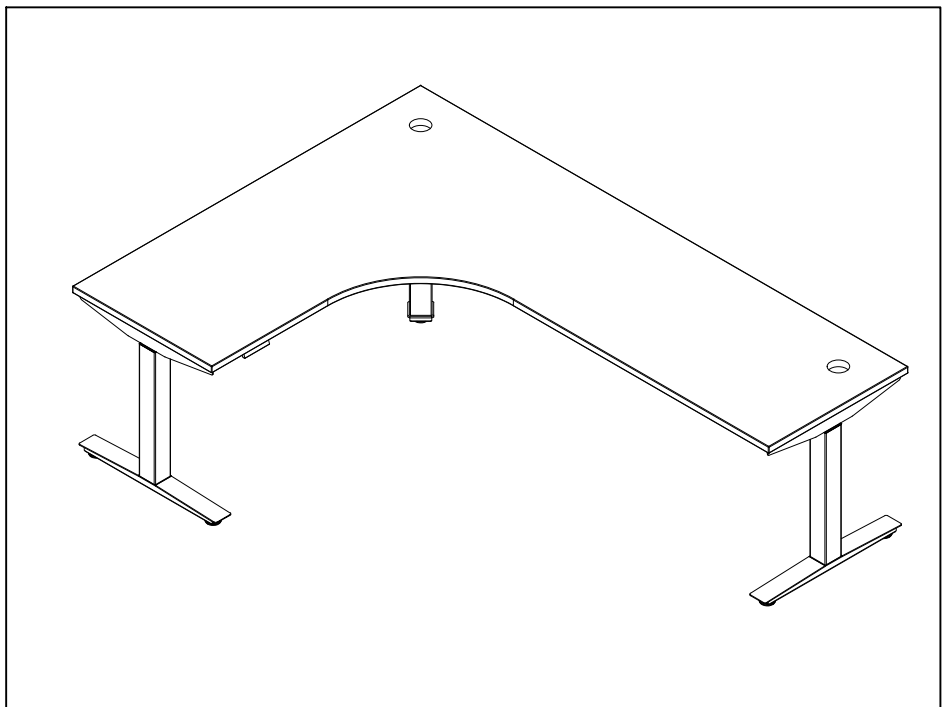

FIGURE 15
14. Flip over the table (Figure 15).